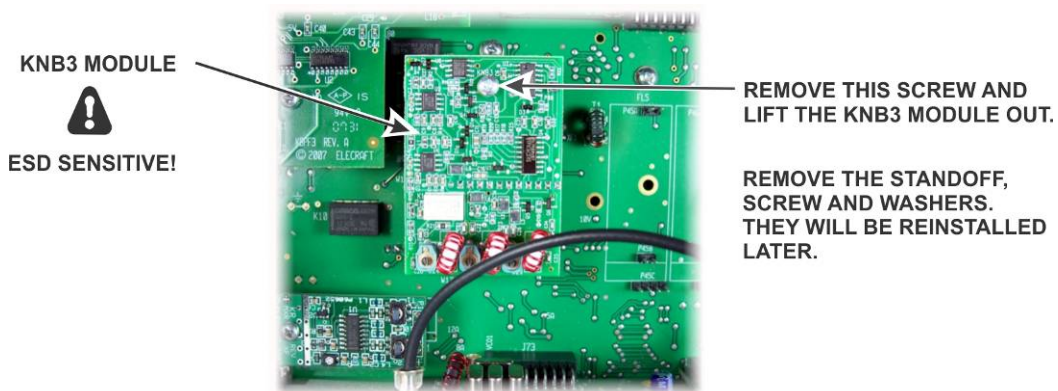

Figure 5. Removing the KNB3 Module.
- Remove the KNB3 module, the standoff, screw and washers from the RF board (see Figure 5). They will be reinstalled later.
- Replace the standoff and the KNB3 module you removed earlier (see Figure 5). When mounting the standoff on the RF board, be sure to place one lock washer under the screw head on the bottom of the board, and two lock washers between the standoff and the top of the board. A fourth lock washer goes under the screw holding the KNB3 module itself.